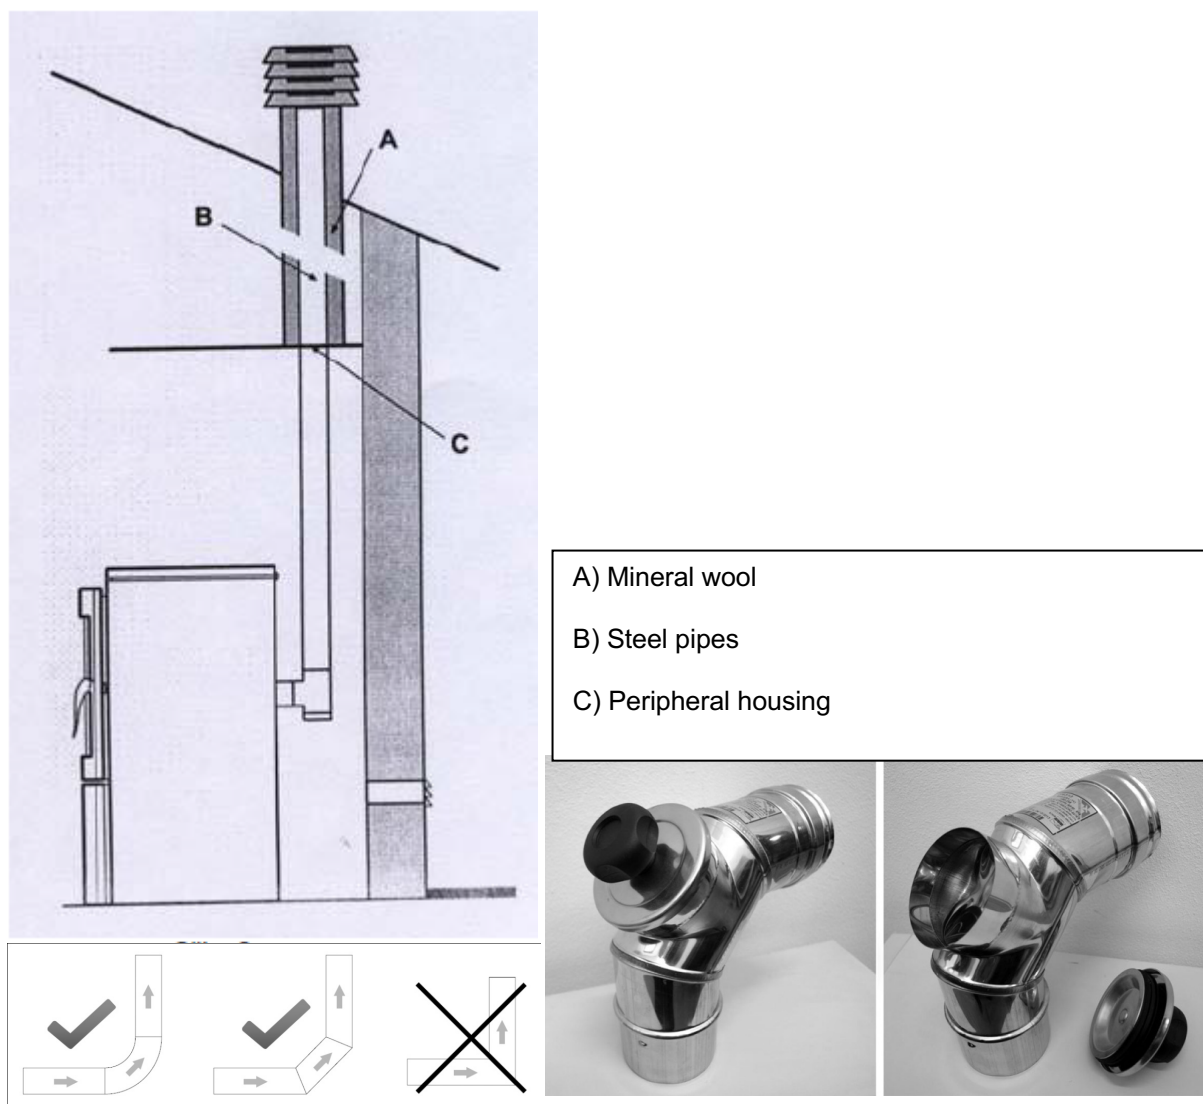

Figure 2
- Avoid contact with flammable materials (such as wooden bars: in any case, the structure must be insulated with a heat-resistant material, refer to figure 2).